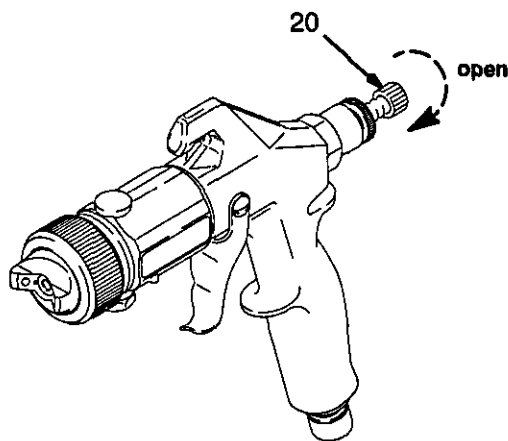

Fig. 6
1. Turn the fluid adjustment knob (20) counterclockwise until no restriction of the trigger movement is felt. See Fig. 6.